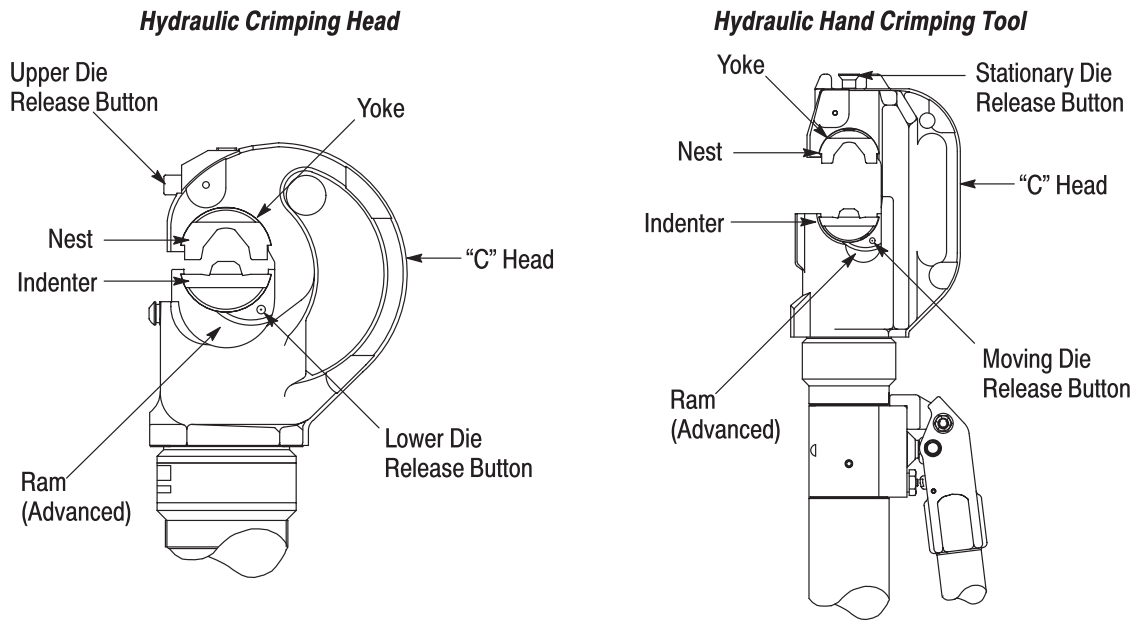

Figure 2
1. Depress the upper die release button (head) or stationary die release button (tool) located on the “C”-head. See Figure 2.
2. Slide the nest into place in the “C”-head. See Figure 2.
5. Slide the indenter into position in the ram. See Figure 2.
1. Depress the upper die release button (head) or stationary die release button (tool) located on the “C”-head, and slide the nest out. See Figure 2.